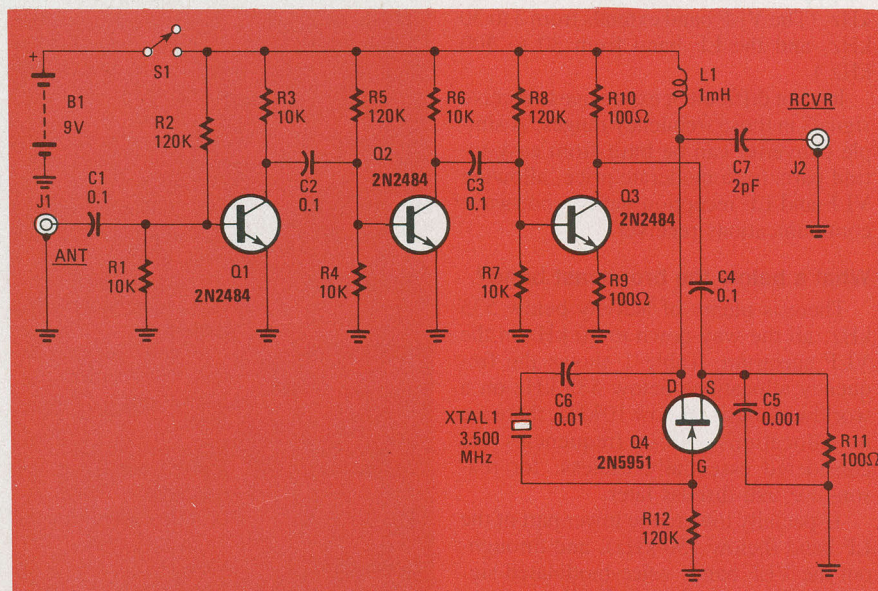

FIG. 2—COMPONENTS USED IN LOW-BAND CONVERTER are readily available. Crystal may be ordered from companies advertising at back of magazine.
The decoder, shown in block form in Fig. 2, must check for a series of received and demodulated audio tones. Each pager in a system will respond to one, and only one, specific group of tones. Not only does the decoder check for a particular series of tones, but it also looks for them to appear in a specific sequence.
Since the audio recovered from the FM signal is low in level, it must be amplified before being fed to the decoder filters and the audio amplifier. If the pager is in its normal (STANDBY or RESET) mode, it is waiting for the audio tones that will enable it and cause it to "sound off." In the case of the decoder shown in Fig. 2, only two tones are needed to make it decode successfully.
Figure 2 shows the a schematic diagram for a low-band converter. Three stages of broadband amplification (Q1, Q2, and Q3) are used. The crystal oscillator/mixer, Q4, provides an amplitude-modulated (AM) signal, with the carrier at 3.500 MHz. That signal is fed to the antenna input of the receiver. The VLF and LF signals appear as sidebands above and below the carrier. The upper sideband (3.510 to 4.035 MHz) is easier to use because the signal frequency is easier to determine—just subtract 3.500 MHz from the receiver dial read-out. (If you use the lower sideband the reception will be just as good, but the band will come out "upside down" in the receiver, and frequency determination will be tricky.)